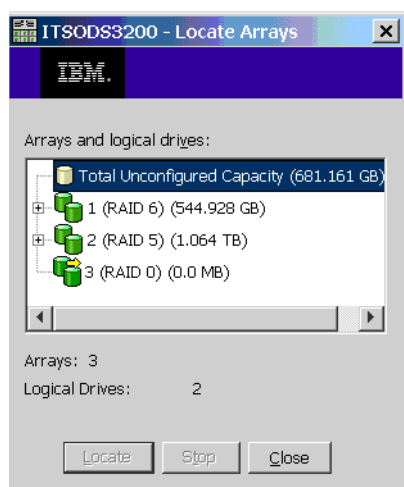

Figure 14-56 Show exported array
8. The exported array in the source DS3000 has changed its icon, as shown in Figure 14-56. This window can be activated in the Summary tab by selecting the **Arrays & Logical Drives** link.